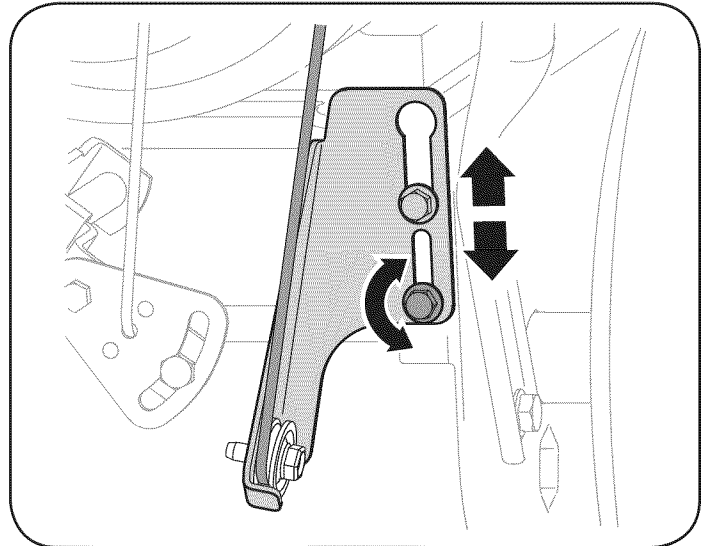

Figure 25
6. Loosen the lower hex bolt on the drive cable bracket. See Figure 25.